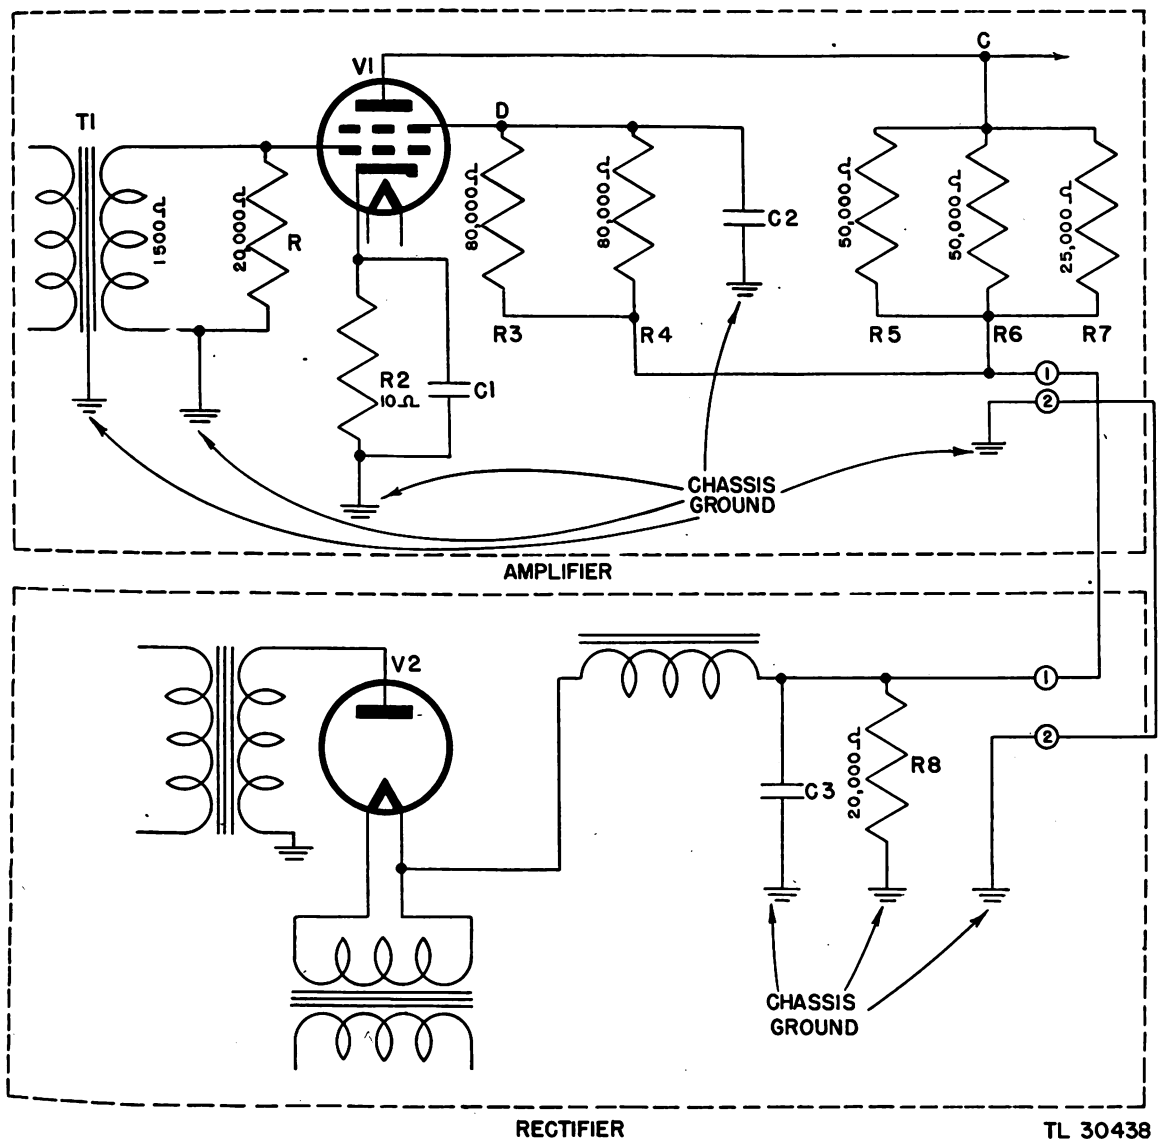

Figure 69. Resistance measurements functional schematic.
(3) PRACTICAL EXAMPLES OF SERIES-PARALLEL CIRCUITS. Figure 76 shows an amplifier stage similar to that shown in figure 69, with a rectifier supply added.